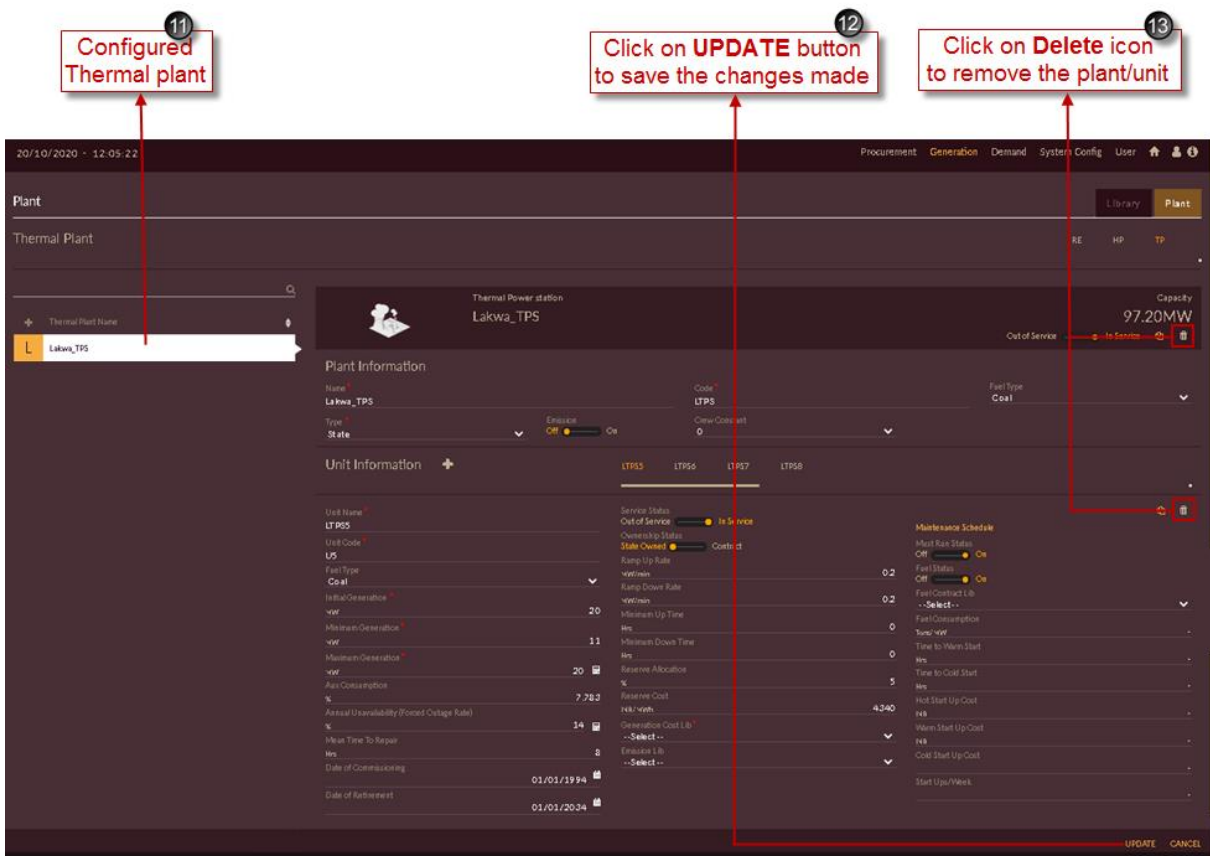

Figure 162. Updated Thermal Plant
11. Configured Thermal plant list will appear on left of the page as shown in Figure 162.